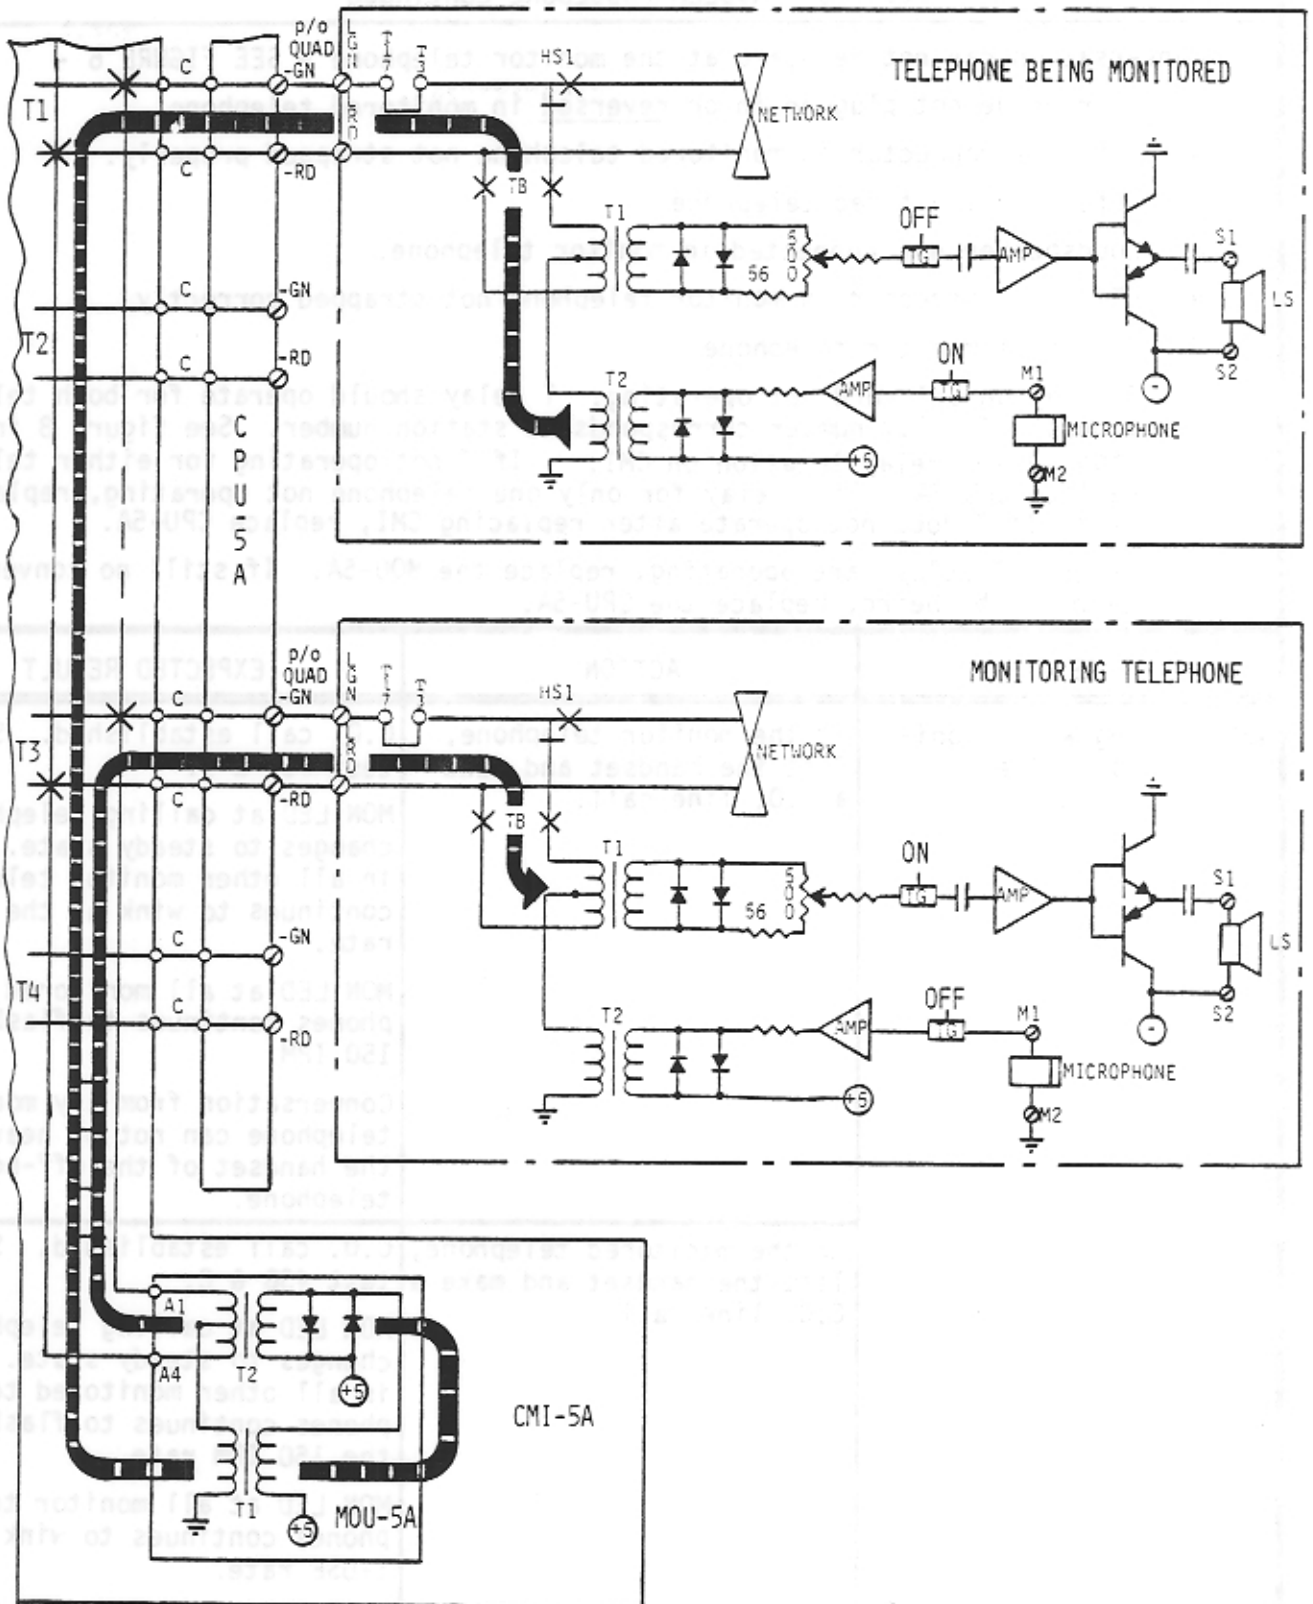

Figure 6 - Station Monitor Audio Circuit Simplified Schematic
4. Conversation can not be heard at the monitor telephone - SEE FIGURE 6 -